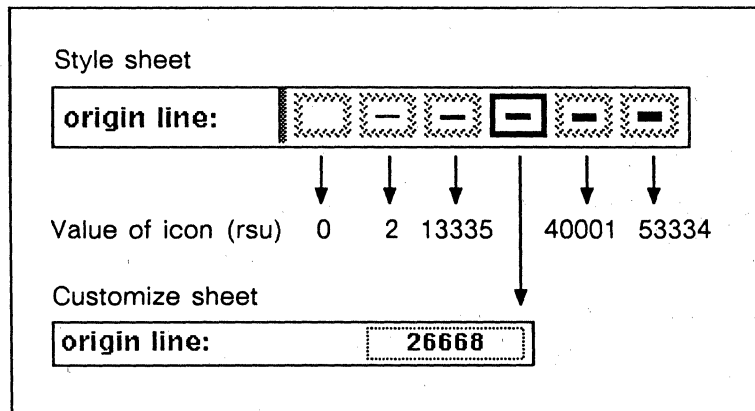

Figure 29-14. Numeric value of origin line icons
**Origin line.** On the Style sheet for a line or bar chart you can select one of six icons to determine the thickness of the origin line. Each of these icons represents a rsu value on the Customize sheet (Figure 29-14). To produce a thicker origin line or one that falls between the settings offered on the Style sheet, modify the value of *origin line* on the Customize sheet.